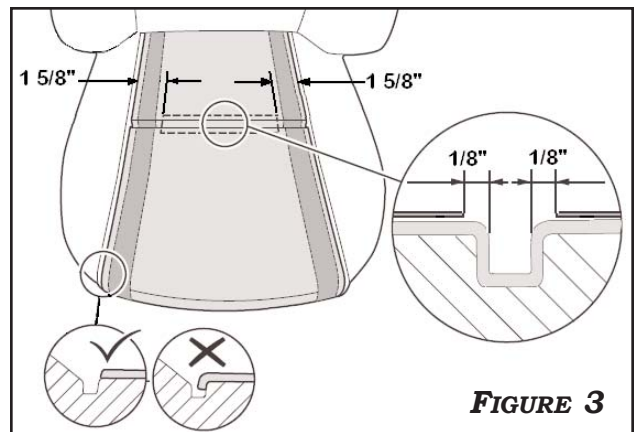

FIGURE 3
2. DRAW A WINDOW AROUND THE LOCATION OF THE CENTER LISTING. ALLOW AT LEAST 1/8" (3MM) ON EITHER SIDE OF THE LISTING CHANNEL. **NOTE:** LEAVE AT LEAST 1 5/8" (40MM) OF SEAT HEATER MATERIAL TO EACH SIDE OF THE OPENING. **FIGURE 3.**